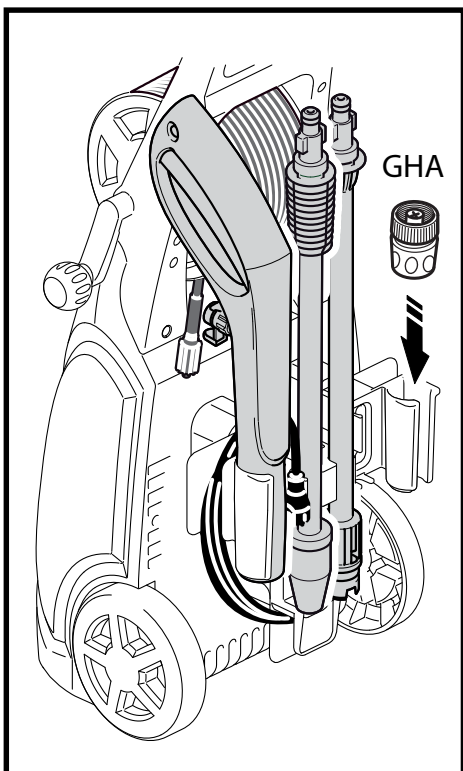

Fig. 22
- The GHA should be stored in the accessory holder when your unit is not in use to prevent loss or damage (Fig. 22).
in one of the slots. Lances are pressed into and stored in the half circle notches (Fig. 22). Make sure to discard any remaining detergent from the bottle. Flush the bottle and nozzle head with fresh water to prevent clogging.